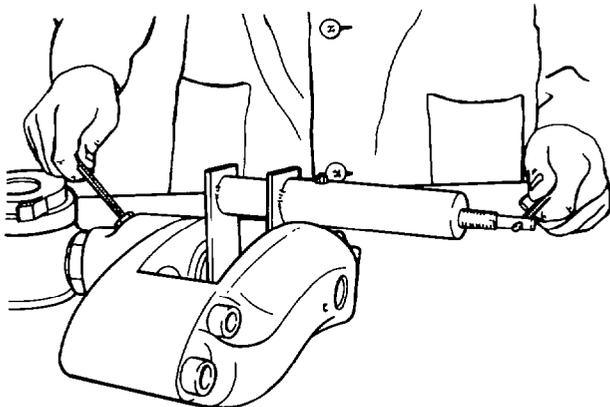

Figure 77 Adjusting the Inner Pistons
1. Repeat this procedure for the inner piston, turning the adjusting screw clockwise (see Fig 77).